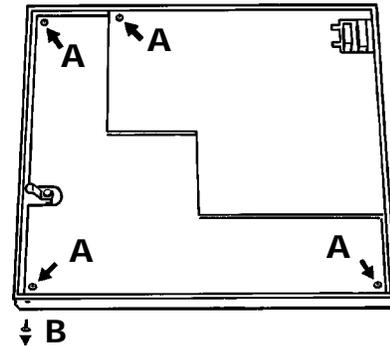

Figure 4.13.1c
- Release the door inner cover by undoing and removing the fixing screws ('A' in figure 4.13.1c). Remove the plastic door guide if fitted ('B') and keep safely for later re-assembly.